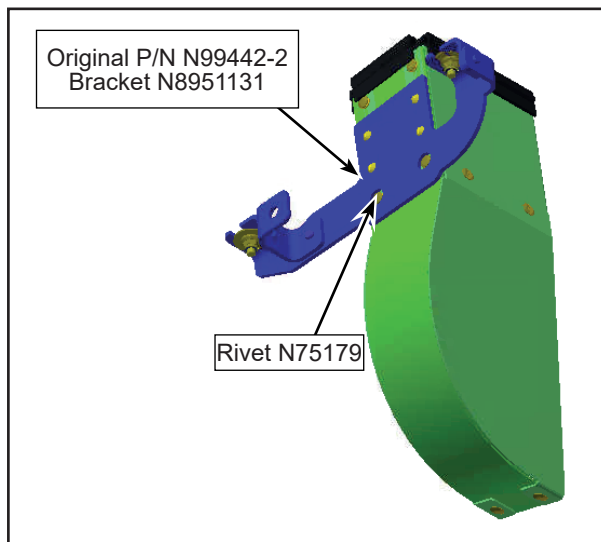
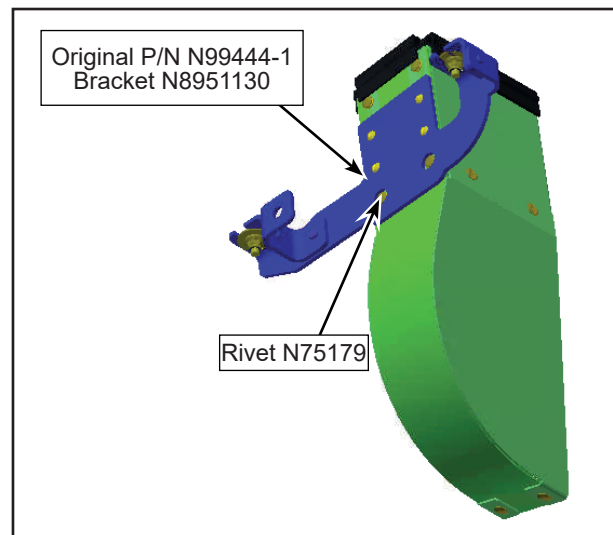

Figure 5 - Installation of Bracket
Figure 8 - Installation of Bracket
- 1.11. Install the brackets accordingly on the deflectors using the rivets N75179 (see figure 5 to figure 8).